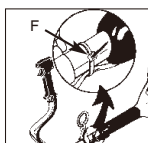

Fig.1C
4. Install wire tie (F) included in the user kit as shown (Fig.1C).